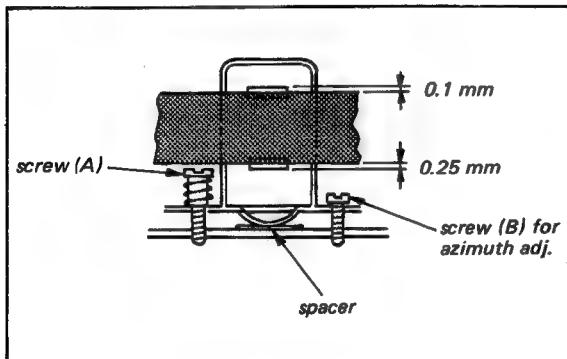

Fig. 7-15 Audio/CTL head (2)
- Play the tape and check that the core of the head extends 0.1 mm above and 0.25 mm below the edges of the tape. See Fig. 7-15. The height can also be adjusted by inserting spacers.
- Adjust the azimuth adjustment screw in Fig. 7-15 to obtain maximum VTVM reading.